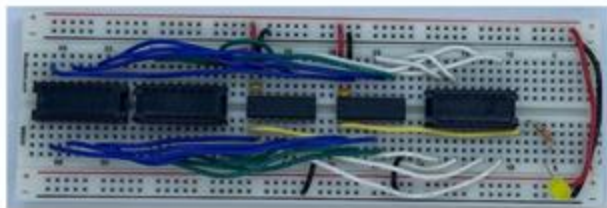

Figure 14: The finished bus MUX with place-holder connectors.
- Figure 14 shows the completed circuit. At this point it uses 3 connectors as placeholders. They are not connected to anything at this point.